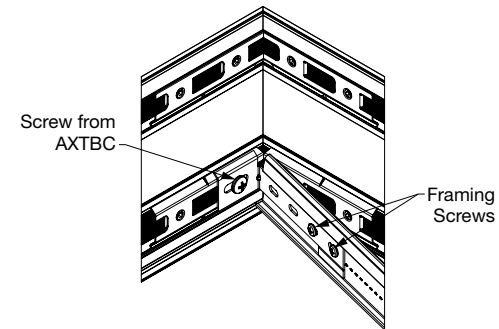

Fig 46
- Clamp and attach the PCC to the grid with two screws (**Fig 46**)